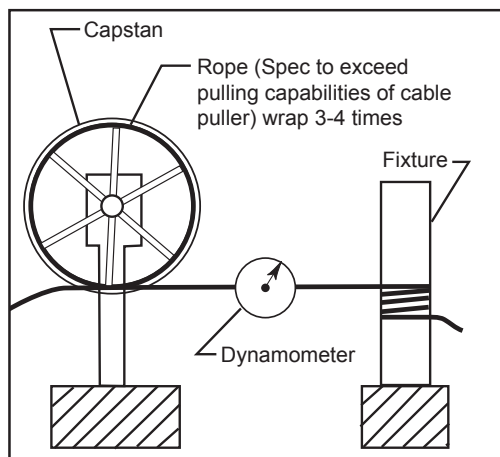

Figure 3. Calibration Verification Setup
1. Set up the capstan on a bayonet shaft as if cable were to be pulled (figure 3).